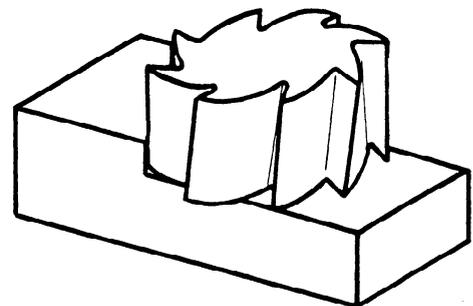

Figure 2 — Face milling operation
- face milling operations (see figure 2);